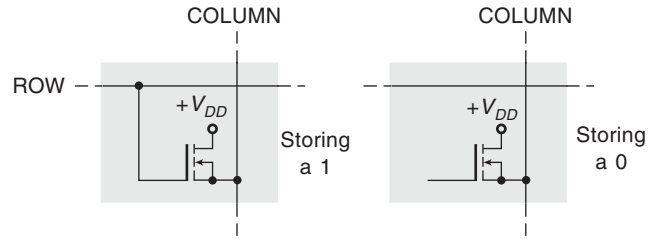

Fig. 15.7 MOS ROM Cells.
- (b) *MOS Cells:* Figure 15.7 illustrates MOS ROM cells. They are basically the same as the bipolar ROM cells except that they are made using MOSFETs (metal oxide semiconductor field-effect transistors). The presence or absence of a gate